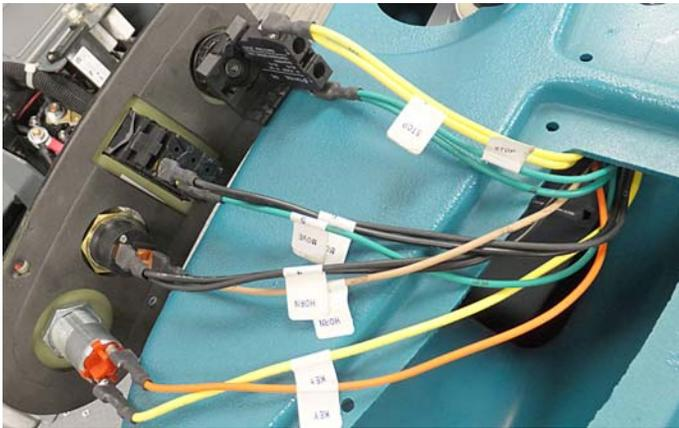

Fig. 10
6. Reconnect wires to key switch panel components as shown and replace panel (Figure 10).